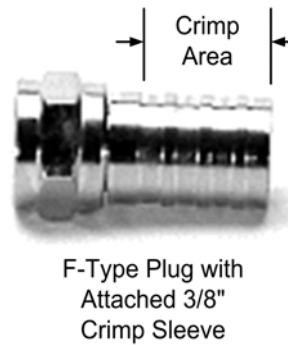

Figure 14. Crimp Area for F-Type Plugs
10. Crimp the connector with the proper crimp tool such as CablePrep HCT-775 for RG-6 or HCT-116 for RG-11, as shown in Figure 14.